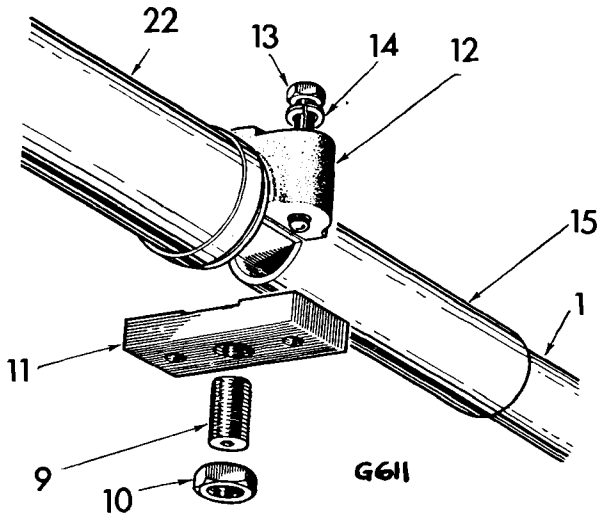

Fig. 26. Impact clamp details
6. Re-tighten the bolts (13) on the impact clamp (12). Using a socket key tighten the screw (9), Fig. 26, by hand as much as possible without bending the wrench. Tighten the locknut (10).